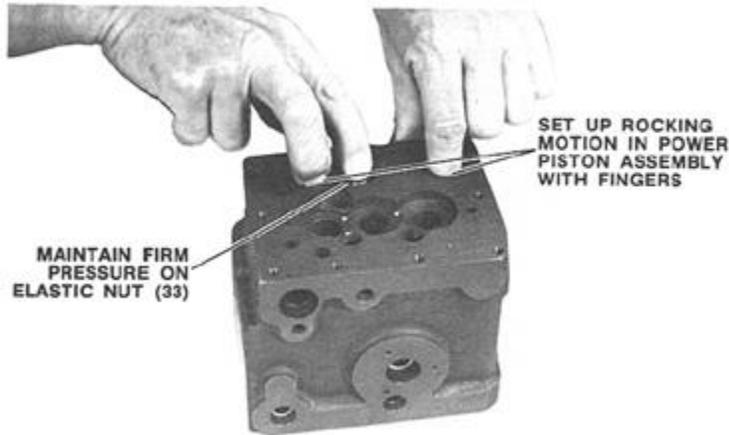
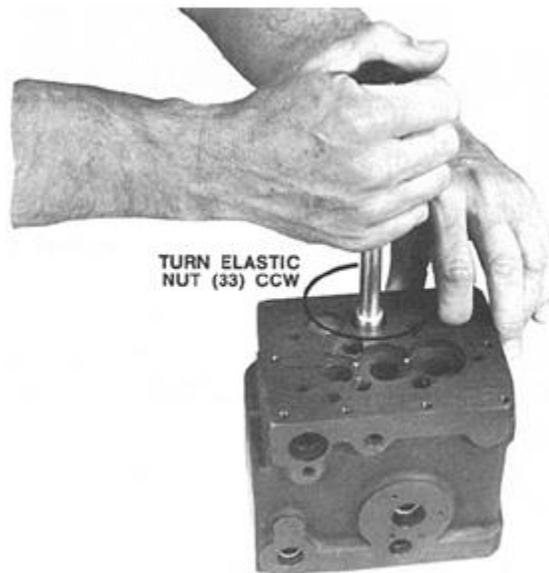

Figure 5-17d. Removing Play in Power Piston Assembly
Figure 5-17e. Removing Play in Assembly
- (3) Fit speed handle to elastic nut (33) and holding speed handle with firm pressure, start turning elastic nut (33) counterclockwise 1/4 of a turn or so at a time to remove play in the piston linkage assembly. Remove speed wrench each time while maintaining firm pressure with the finger on the elastic nut, to see how much play has been removed by pushing alternately on pistons (19) & (34) as in step (1) above. See Figure 5-17d. Each time this step is repeated, turn elastic nut (33) counterclockwise in progressively smaller amounts as the amount of play in the piston linkage assembly decreases. See Figure 5-17e. When nearing complete removal of play in the piston linkage assembly, turn the elastic nut (33) counterclockwise only one degree at a time until all play has been removed.